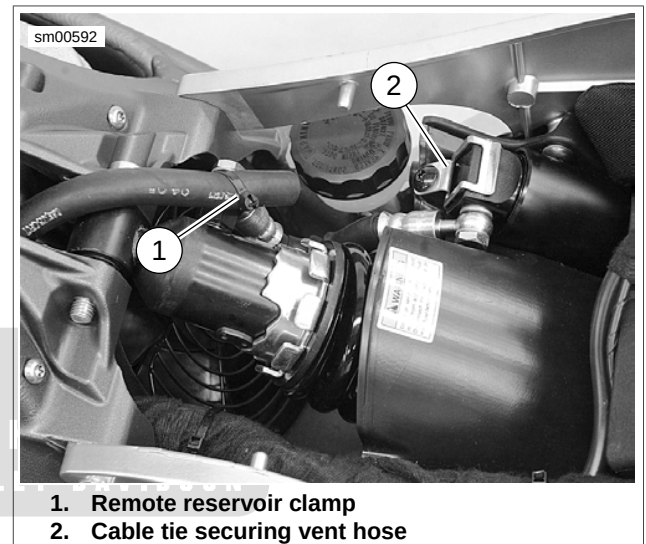

Figure 2-121. Rear Shock Absorber and Remote Reservoir (XB12Ss Shown)
3. Place a scissor jack under jacking point at the rear muffler and raise chassis until load has been removed from the lower shock bolt (7). See 4.16 EXHAUST SYSTEM for jacking point.
4. See Figure 2-121. Cut the cable tie (2) securing vent hose to shock housing.
5. Remove the nut (4) and washer (5) from the lower shock bolt and raise scissor jack until the lower bolt can be removed by hand.
6. After removing both shock fasteners (7, 9) and reservoir clamp fastener (1), remove rear shock assembly and reservoir.